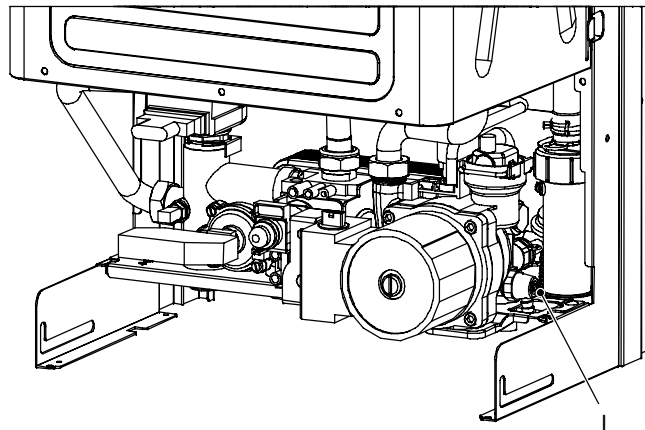

Fig. 8
- Open the drain tap *I* (Fig. 8) until the boiler is completely emptied.